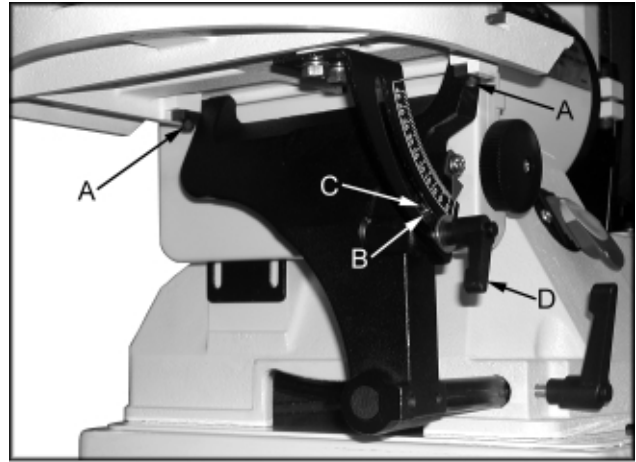

Fig. 13
4. If the miter slot is not parallel loosen the two socket head cap screws (A, Fig. 13) and adjust for parallel. Tighten the two screws when the adjustment is complete.
5. Always maintain a gap of approximately 1/16" between the table edge and disc. Once the table is square and parallel to the disc adjust the 90° stop. Loosen hex nut (B, Fig. 13) and tighten the set screw (C, Fig. 13) until it contacts the trunnion. Tighten hex nut.
7. The table can be tilted between 0°-45° by loosening the handle (D, Fig. 13) and tilting the table to the desired angle. Tighten the handle. Always maintain a gap of approximately 1/16" between the table edge and disc.